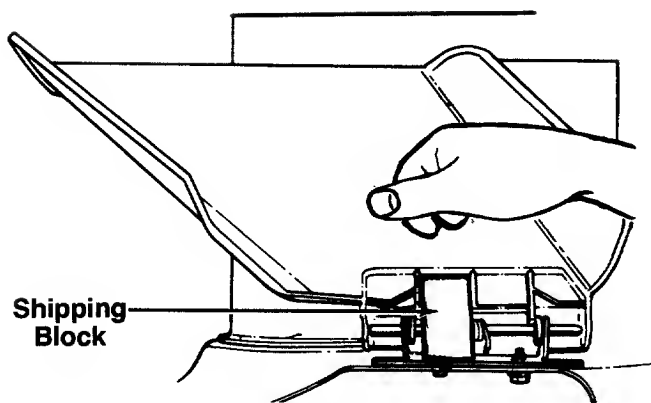

FIGURE 7.
1. The chute deflector on your mower is held in an upright position by a block for shipping purposes only. This shipping block must be removed and discarded before the mower is put into operation. See figure 7.